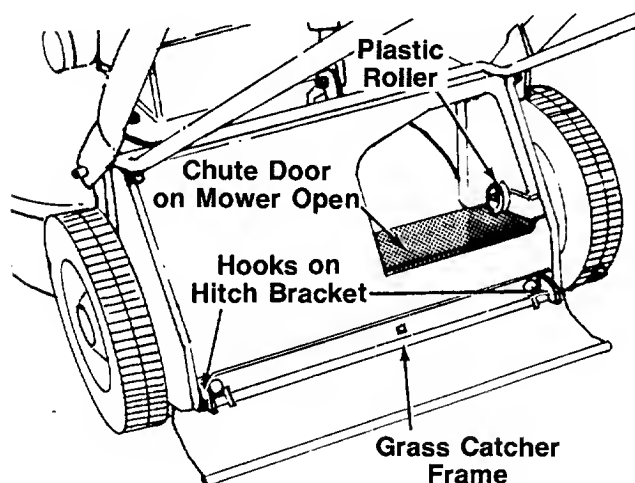

FIGURE 14.
1. Attach the grass catcher frame to grass catcher hitch bracket on rear of the mower by hooking grass catcher into hooks on grass catcher hitch bracket. See figure 14.
2. Lift the rear of grass catcher up. The roller on the grass catcher will push the chute door on the mower open. See figure 14.
Figure 14 is shown with the chute door open for clarity only.